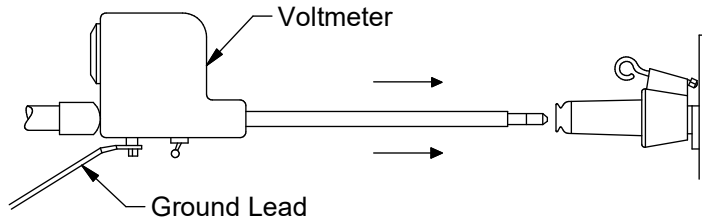

Figure 5
5. Attach voltmeter firmly to universal hot stick. Insert meter rod in second plug of feed-thru bushing. Check for voltage. **CAUTION: Do not leave the meter attached to an energized line any longer than 1 minute.** If attached longer, the instrument may overheat. See Figure 5. **NOTE: Elbow not shown on the feed-thru bushing.**